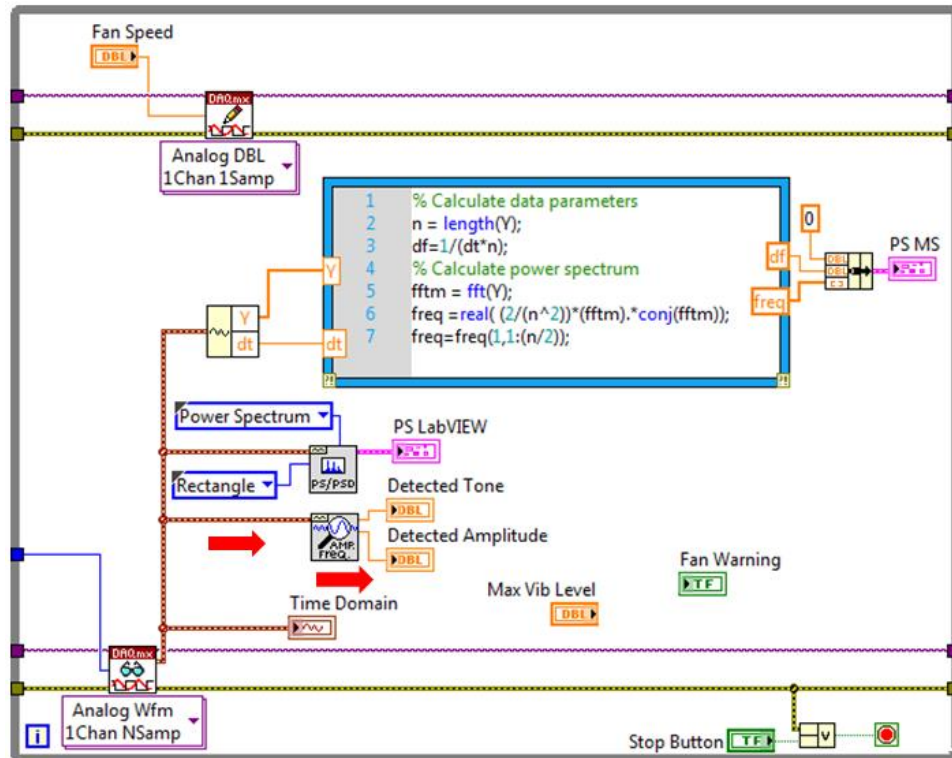

Figure 49. Wire the time domain waveform to the Extract Tone VI to pull the frequency and amplitude of the highest power tone.
- Place the VI in the location shown in Figure 49 and wire the inputs and outputs as shown. If you need help figuring out the different inputs, remember that Ctrl+h will show the Context Help to provide you with a reminder.